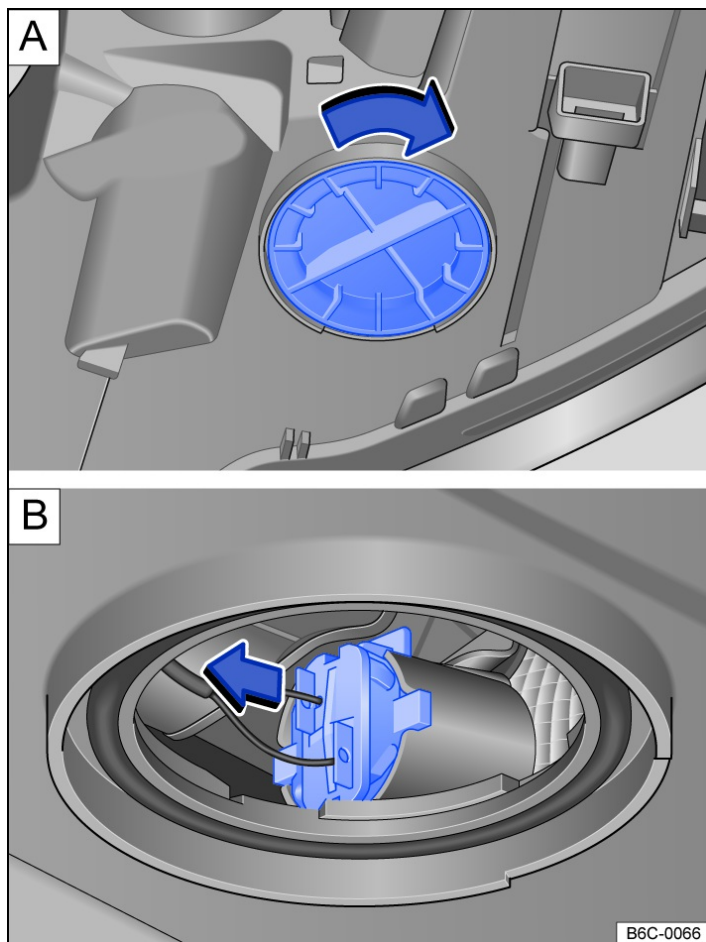

Fig. 1 View of front right headlight from below: closure cap of the turn signal.
4. Turn the closure cap in the direction of the arrow and remove it  $\rightarrow$  Fig. 1 [A].
5. Pull out the bulb holder with the bulb in the direction of the arrow  $\rightarrow$  Fig. 1 [B].